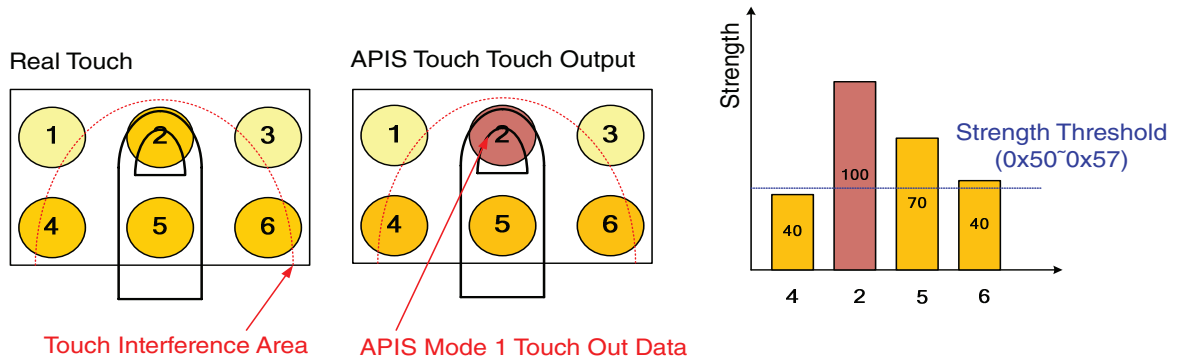

Figure 3: Operation of APIS Mode 1
**APIS mode 1:** Reports the strongest output only (Figure 3).